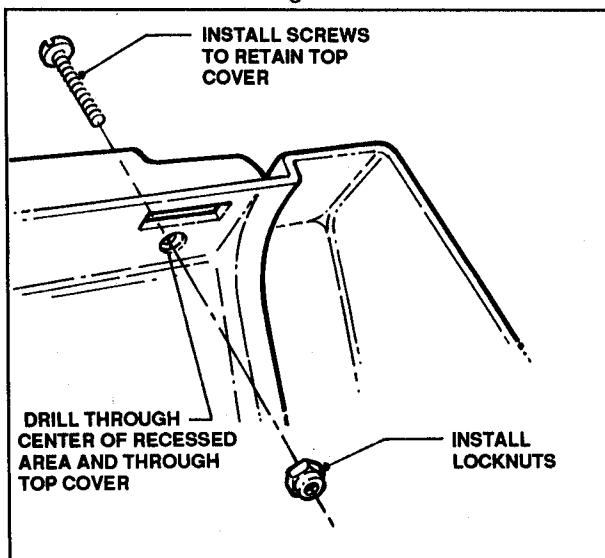

FIGURE 7.3
- (1) Tilt Snow Thrower back on Handlebar.
- (2) From underside, drill through Auger Housing and Top Cover at locations shown in Figure 7.3.